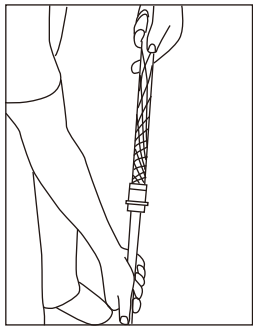

Fig. 13
5. Push down on the mesh to loosen wire then pull free (Fig 13).